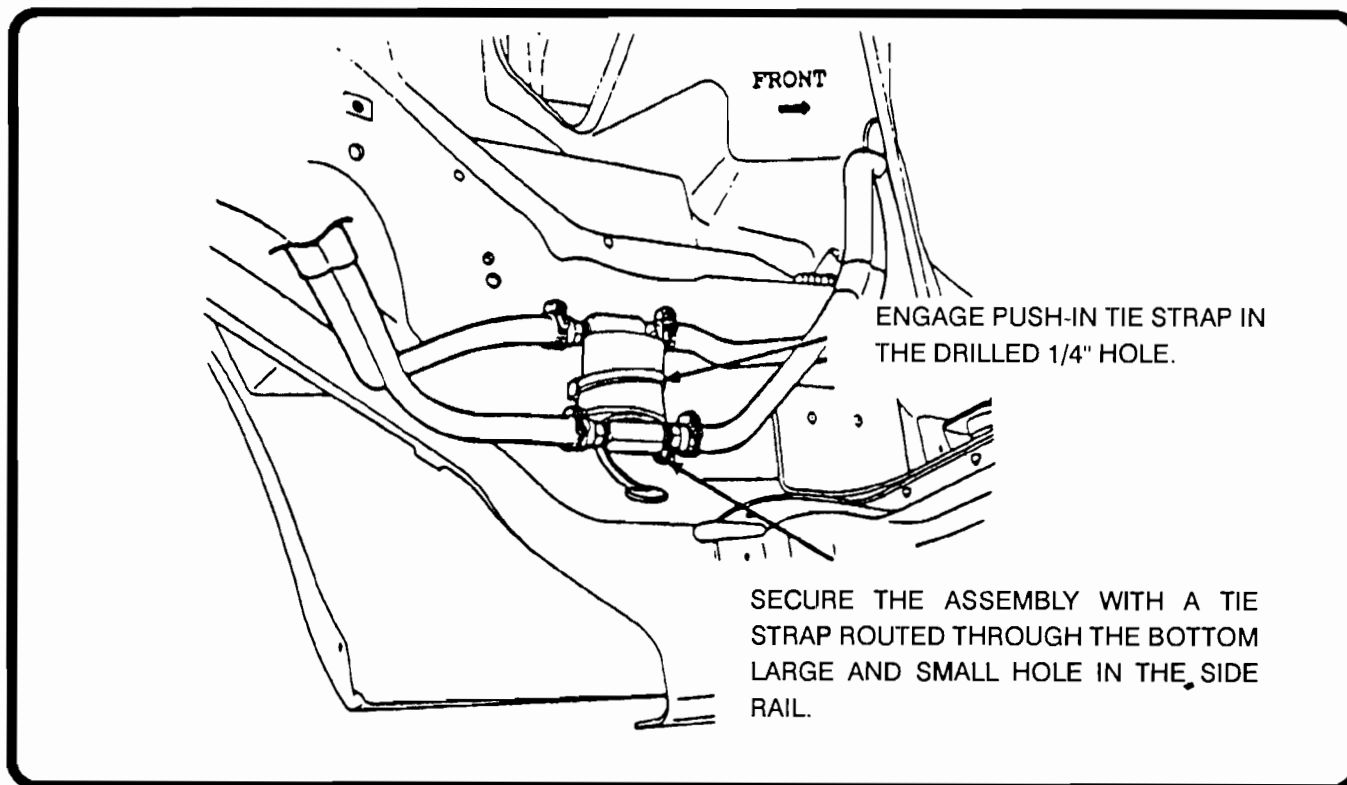

Figure 57
7. Cut the supplied foam tube and wrap it around the bypass valve (Figure 57).
8. Tighten the supplied "Push-in" tie strap around the foam tubing and cut off the excess strap (See Figure 57).
9. Engage the "Push-in" tie strap into the drilled 1/4" hole (See Figure 57).
10. The bypass valve assembly **MUST** be positioned vertically (See Figure 57).
12. Install the other supplied tie strap to secure the bypass valve assembly to the frame rail, as shown in Figure 57, and cut off excess tie strap.